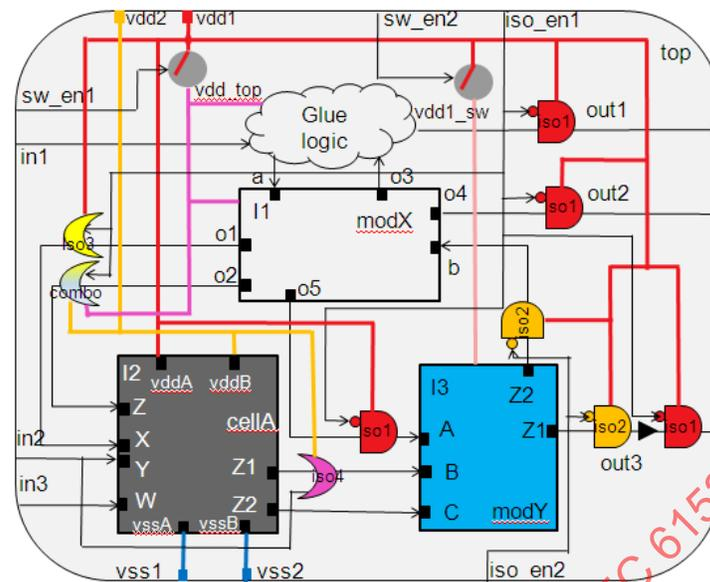

Figure E.6—Block example diagram after physical implementation
Figure E.6 shows the block diagram of the example in Figure E.1 after the physical implementation stage, with power and ground connections completed.
For the regular logic cells of a power domain, the power pin and ground pin of each cell are connected to the primary power net and ground net of the parent power domain, respectively. For example, the power pins of the glue logic in Figure E.6 are connected to the power net vdd\_top, which is defined as the power net of the primary supply set of power domain PDTop.
- *Level-shifter supply connection:* The level-shifter cell power and ground connections are determined by the options **-input\_supply\_set** and **-output\_supply\_set** in the level-shifter strategy. For example, in `top_impl.upf`, the level-shifter strategy `lv11` has an input supply set of `PDTop.primary` and output supply set of `PDTop.SSH2`. Since an enabled level-shifter is used to implement both the isolation strategy `iso3` and level-shifter strategy `lv11` for this connection, the input power net of the cell is `vdd_top` and the output power net of the cell is `vdd2`, as shown in Figure E.6. If the two options are not specified for a level-shifter strategy, the supply set of the source is used as the input supply set and the supply set of the sink is used as the output supply set.
- *State retention supply connection:* In the configuration UPF, the option **-retention\_supply\_set** describes the supply set for each retention strategy. Retention cells mostly have two set of supplies. The primary rails are connected to the power and ground nets of the parent domain. The secondary rails are connected to the power and ground nets of the specified retention supply set. Even though it is not shown in Figure E.6, the retention cells that implement the strategy for `ret1` in `top_soft.upf` shall have the following connections: primary rails of the cell are connected to `vdd1_sw` and `vss1`, respectively, and the secondary rails of the cell are connected to `vdd1` and `vss1`, respectively.